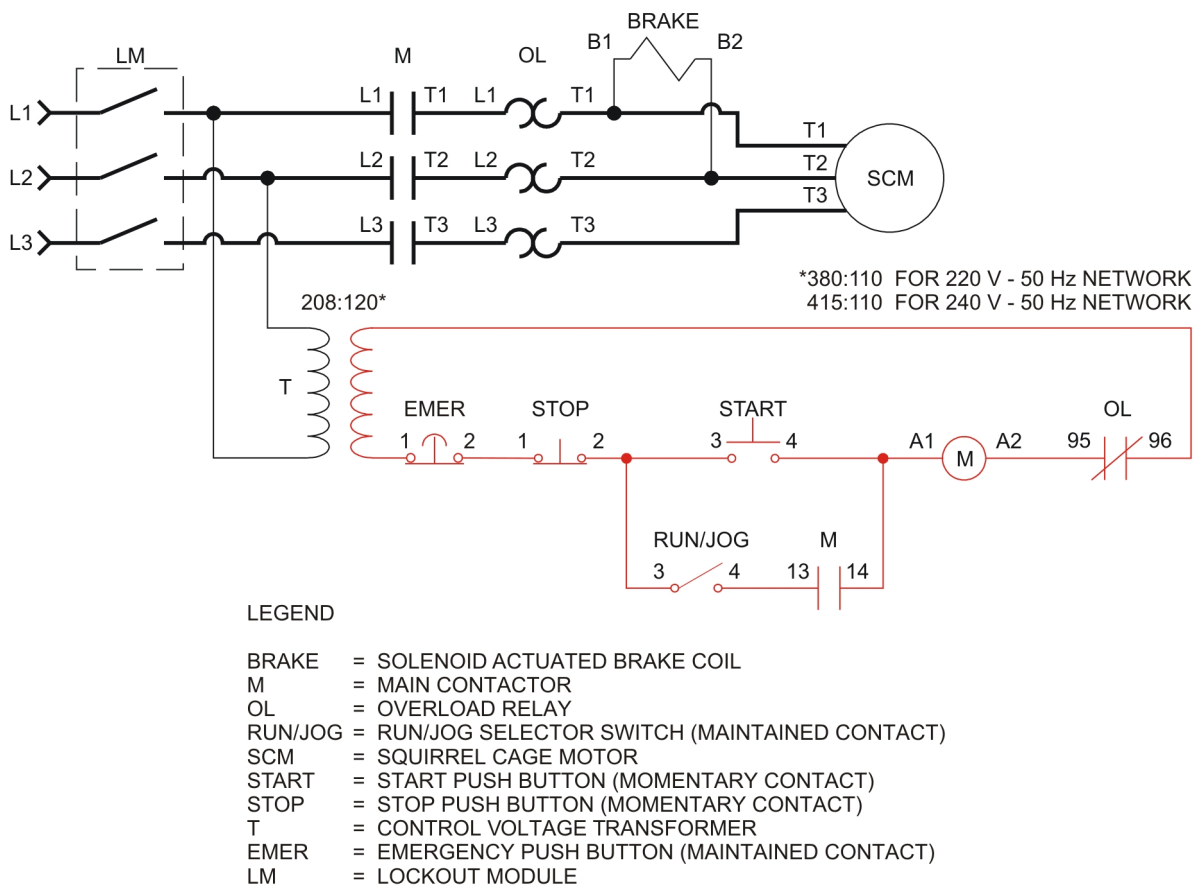

Figure 4-8. Jog/Run circuit with selector switch.
7. Connect the circuit shown in Figure 4-8. Use the SS-1 contact of the Selector Switches module.
*Your client wants you to change the control circuit of Figure 4-8 to include three different push buttons: one for jogging, one for starting, and one for stopping.*